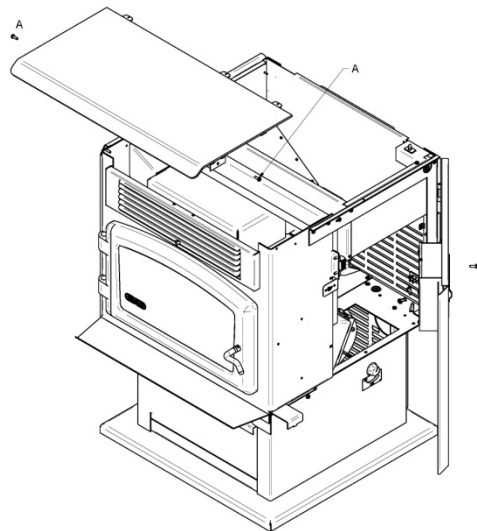

Figure 2
Step 2 : Open the decorative panels. To do so, remove the screws securing them in place as shown on figure 2. There is one screw per panel.